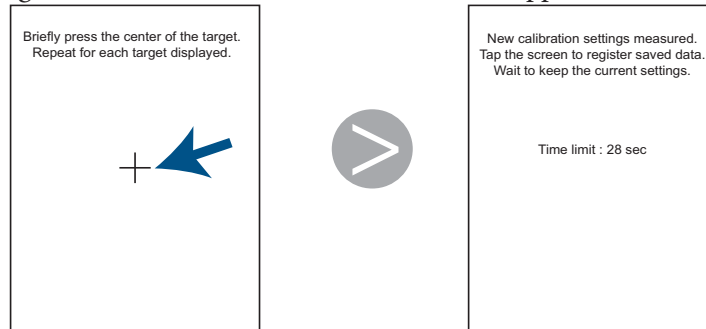

Figure 99. Calibrating the touch screen
5. On each calibration screen that appears, press the + and hold for approximately 2 seconds (*Figure 99*). A screen with a 30-second timer appears.